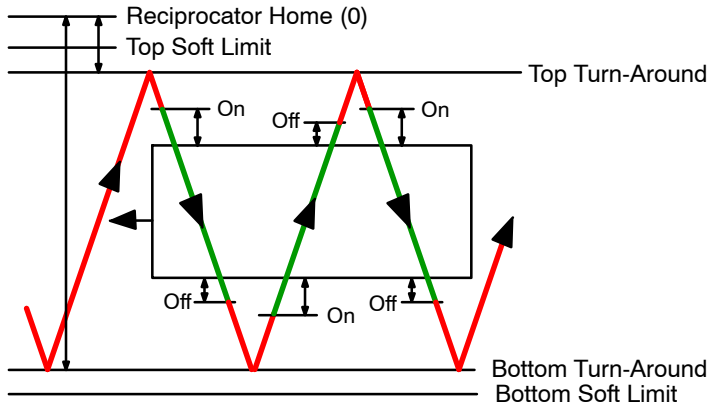

Figure 4-17 Fixed Mode – Trigger Settings Positive, Extended Pattern
- Positive trigger points extend the spray pattern (see Figure 4-17).